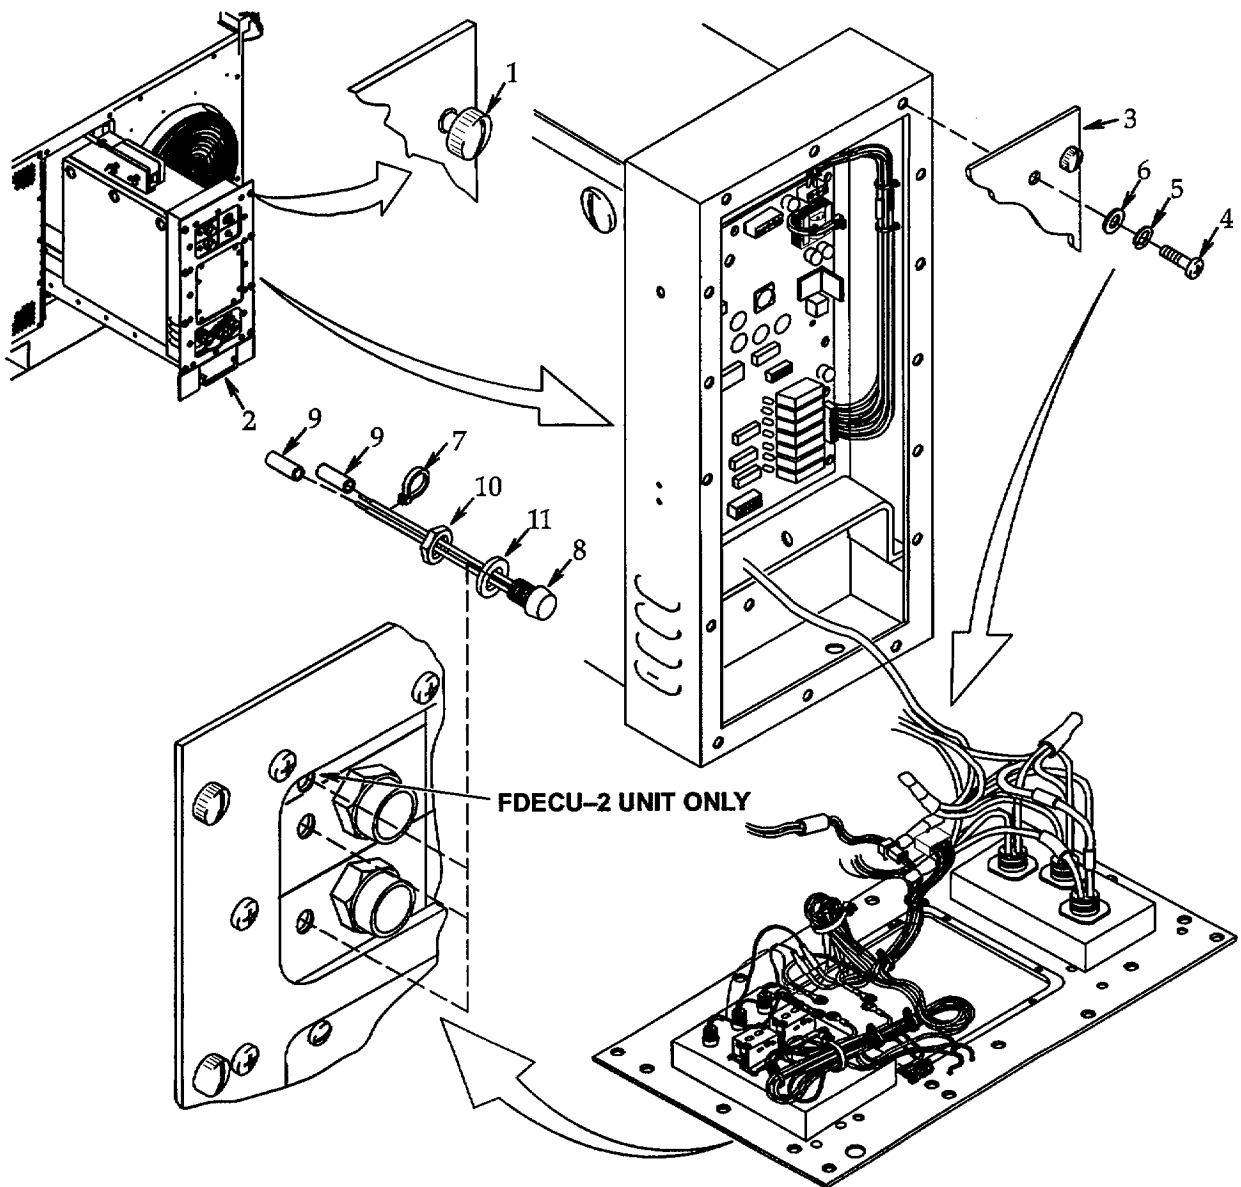

Figure 4-44. Light Emitting Diodes (FDECU-2 DS4 thru DS6) (Units After FDECU-2 DS5 and DS6).
a. **Removal.** See figure 4-44.
- (1) Shutdown the FDECU per paragraph 2.4 and disconnect it from power source.
- (2) Loosen eight captive screws (1) and carefully pull the electrical assembly (2) out.
- (3) Support control box panel (3) and remove 16 screws (4), lock washers (5), and flat washers (6). Carefully pull control box panel away as far as wire leads will allow. Discard lock washers.
- (4) Cut and remove two tiedown straps (7) securing light emitting diode (8) leads. Discard tiedown straps.
- (5) Tag and cut light emitting diode (8) leads at solder connections. Remove and discard insulation sleeving (9) pieces from wire lead ends.
- (6) Remove nut (10) and light emitting diode (8) with sealing washer (11).
b. **Installation.** See figure 4-44.
- (1) Be sure sealing washer (11) is on light emitting diode (8) then install light emitting diode and secure using nut (10).